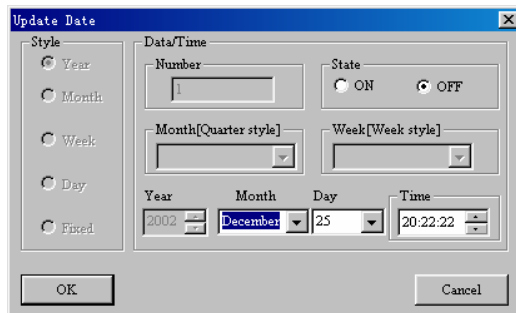

Fig. 3.20 Setting Time
- ※ Add: When you need to add a time, click “add” button, the dialogue frame as in Fig. 3.20 will be displayed:
- ※ Update: When you want to update a time, put the cursor on the said time record and click **UPDATE**. As a time setting frame, similar to that shown in Fig.3.20 appears, reset the time, click **OK** and the said time record is modified.